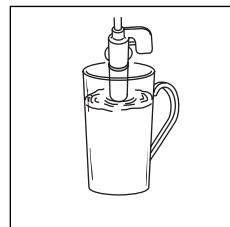
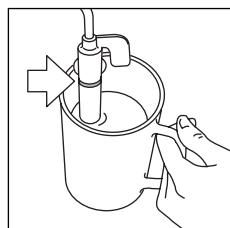
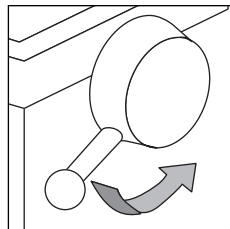

fig. 18
fig. 19
fig. 20
5. Dip the cappuccino maker into the milk (fig. 18), taking care not to immerse the raised line on the cappuccino maker (indicated by the arrow in fig. 19). Turn the steam knob at least a half turn anti-clockwise (fig. 20). Steam is given off by the cappuccino maker, giving the milk a creamy frothy appearance. To obtain a creamier froth, dip the cappuccino maker into the milk and rotate the container with slow movements from the bottom upwards.
1. Discharge a little steam for a few seconds by rotating the steam knob (fig. 20). This empties any milk left inside the steam tube.